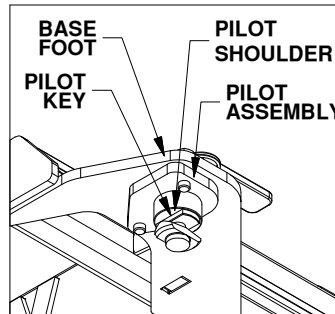
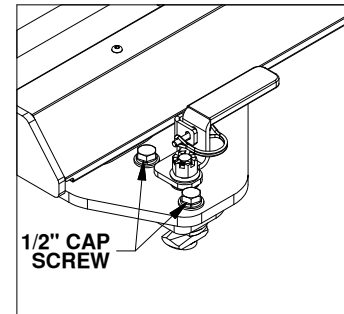

Figure B3: View under base foot
Figure B4: View of base foot
- Align pilot assemblies.** Each leg of the Companion base has an adjustable pilot assembly which is attached to the foot with two 1/2" cap screws, as shown in Figure B3. To adjust the pilot assemblies that do not fit into the attachment points, loosen both the 1/2" cap screws so the pilot assembly can move freely, see Figure B4. Set the base over the attachment points and adjust the pilot assemblies until the pilot keys pass through the slot in the attachment points and the pilot shoulders rest flat against the top of the attachment points. When all the pilot assemblies are aligned and inside the attachment points, push the base toward the cab and use a tape measure to verify that the base is approximately square with the truck bed. Tighten any loose cap screws to 80 ft-lbs.